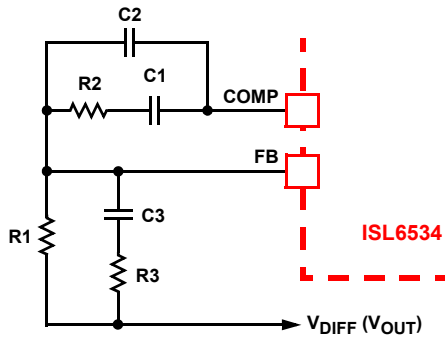

FIGURE 15. COMPENSATION CONFIGURATION FOR ISL6534 CIRCUIT
2. There is a restriction on the size of capacitor C2 (see Figure 15; this is the single capacitor from COMP to FB); it is recommended that the capacitor C2 be kept to less than 500 pF. During start-up, with low voltages and limited slew rate, the smaller value will allow for adequate drive current capability. Some designs can and do work with higher values; there are other factors that can affect the performance; this recommendation just minimizes the chances of a start-up problem.
This section highlights the design consideration for a voltage-mode controller requiring external compensation. To address a broad range of applications, a type-3 feedback network is recommended (see Figure 15).
The compensation network consists of the error amplifier (internal to the ISL6534) and the external R1-R3, C1-C3 components. The goal of the compensation network is to provide a closed loop transfer function with high 0dB crossing frequency ( $F_0$ ; typically 0.1 to 0.3 of  $F_{SW}$ ) and adequate phase margin (better than 45degrees). Phase margin is the difference between the closed loop phase at  $F_{0dB}$  and  $180^\circ$ . The equations that follow relate the compensation network's poles, zeros and gain to the components (R1, R2, R3, C1, C2, and C3) in Figure 15. Use the following guidelines for locating the poles and zeros of the compensation network: